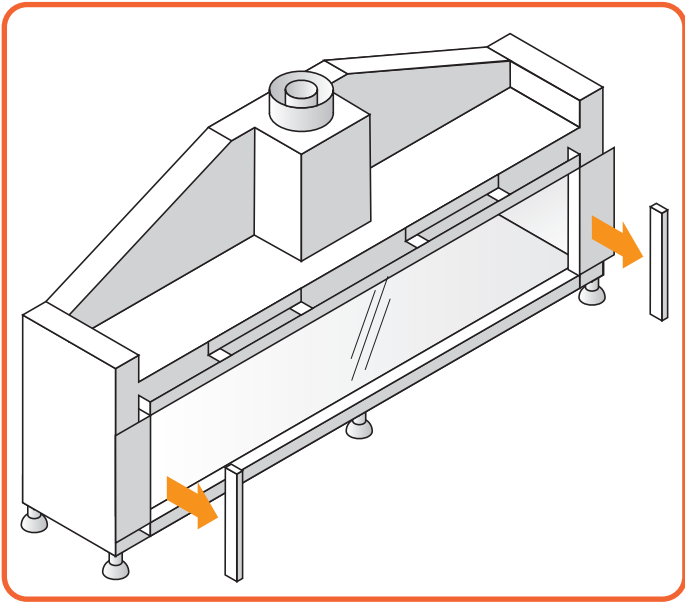

Figure 10.2 - Remove side trims
- Remove both the side trims and bottom trim. They are held by magnet snappers, **Figure 10.2 & 10.3**.